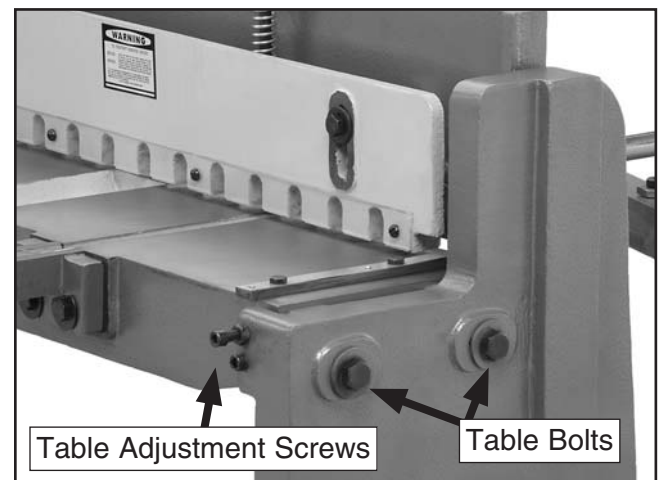

Figure 18. Adjustment screws.
1. Loosen, but do not remove the two table bolts and table adjustment screws on both sides of the foot shear (see **Figure 18**).